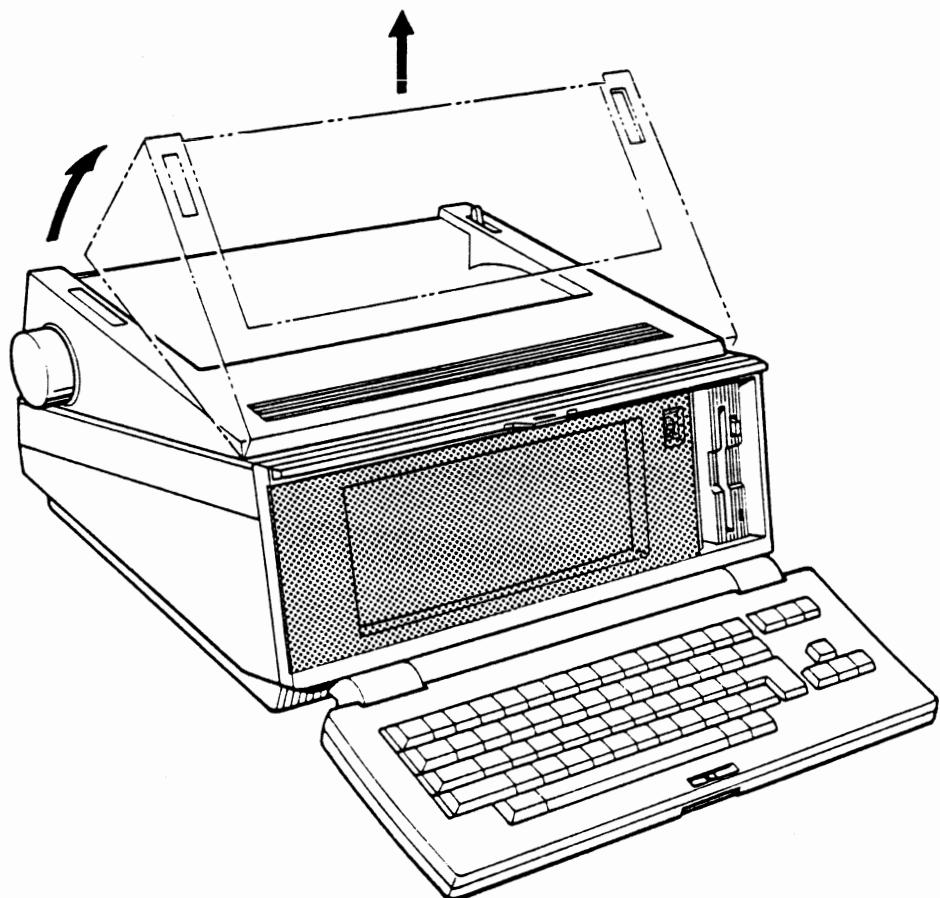

Fig. 1.2
(3) Remove the screw securing the cover
(4) Remove the body cover
b) In order to disengage the three projections on the body cover front from the front panel, raise the rear body cover to the front and lift it up. (Fig. 1.2)